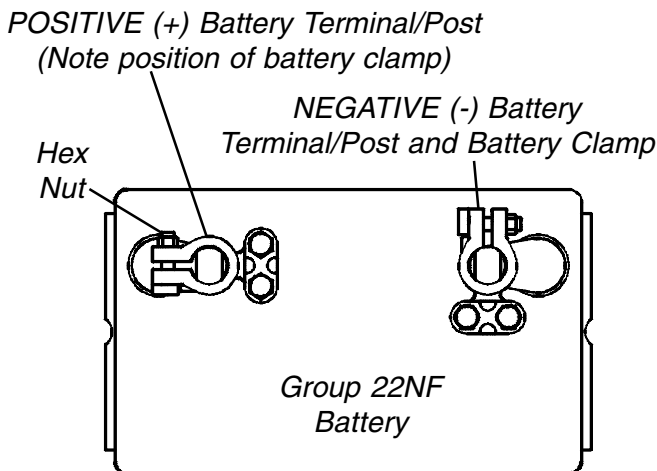

FIGURE 4 - CONNECTING BATTERY CABLES - BATTERY CLAMP METHOD
- C. **FOR DUAL GROUP 22 NF BATTERIES THAT DO NOT HAVE MOUNTING HOLES IN THE BATTERY TERMINAL(S)/POST(S)** - Use battery clamp method. Refer to FIGURES 4, 5 AND 6.
BATTERY CLAMP METHOD (FIGURES 4, 5 AND 6).
- B. If the battery clamp on the POSITIVE (+) battery terminal/post is positioned as shown in FIGURE 4, proceed to STEP 2.